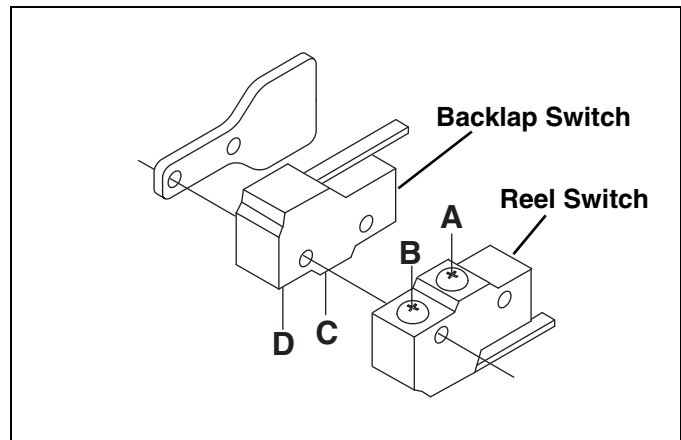

Figure 3K
1. Check and make sure switches are wired correctly. Refer to **Figure 3K** and labels attached to wires for correct terminal placement.